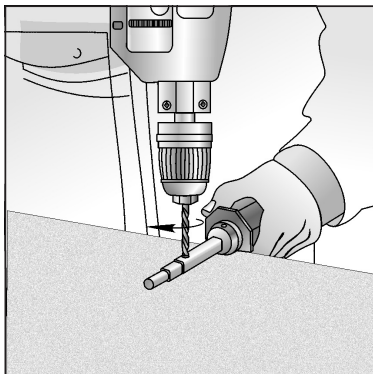

Fig. 19
- extract the cap from the roll tube, unscrew the expansion screw and pull out the bearing rod to provide the space for center drilling; perform the center drilling of 1 – 2 mm deep hole for the expansion screw according to the cast (Fig. 19). It is allowed to perform center drilling in the box without extracting the cap;